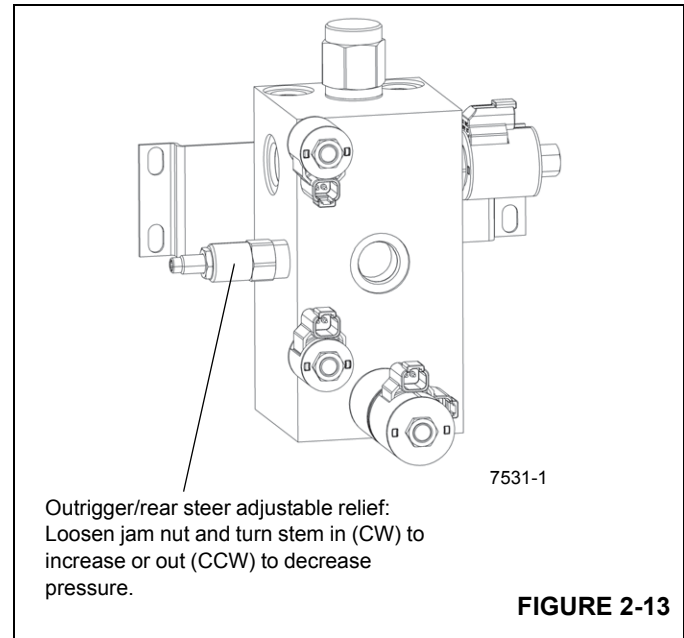

FIGURE 2-13
1. Install pressure check diagnostic quick disconnect with gauge onto test nipple at outrigger/rear steer valve pressure check port Figure 2-13.